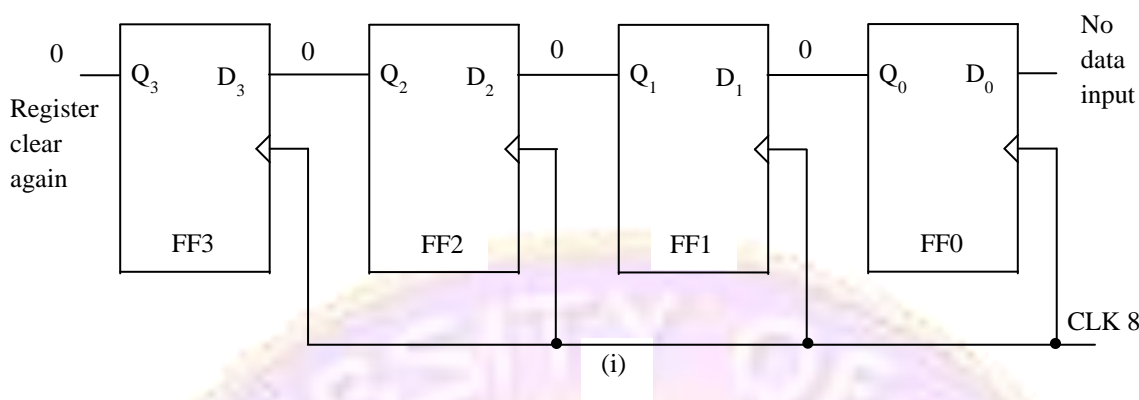

Figure 3. Data flow into and out of 4-bit SISO shift register.
Assume that the register is initially clear (means $Q_3=Q_2=Q_1=Q_0=0$, Figure 3(a)).
1. Let us place bit by bit from left to right starting with left most bit. So first of all, 1 is placed on the data input line making $D_0=1$ for FF0 (Figure 3(b)). The first positive going edge of clock sets first flip-flop (means FF0 stores the data input i.e., $Q_0=1$).
2. Next, the second bit which is a 0, is placed on the data input line making $D_0=0$ for FF0 and $D_1=1$ for FF1 as D_1 input of FF1 is connected to Q_0 output (Figure 3(c)). The second positive going edge of clock sets second flip-flop (means FF1 stores the output of FF0 i.e., $Q_1=1$) and resets first flip-flop (means FF0 stores the data input i.e., $Q_0=0$). So the data stored in FF0 is shifted to FF1 and FF0 stores the input data.
3. Again, the third bit which is a 1, is placed on the data input line making $D_0=1$ for FF0, $D_1=0$ for FF1 as D_1 input of FF1 is connected to Q_0 output and $D_2=1$ for FF2 as D_2 input of FF2 is connected to Q_1 output (Figure 3(d)). The third positive going edge of clock sets third flip-flop (means FF2 stores the output of FF1 i.e., $Q_2=1$), resets second flip-flop (means FF1 stores the output of FF0 i.e., $Q_1=0$) and sets first flip-flop (means FF0 stores the data input i.e., $Q_0=1$). So the data stored in FF1 is shifted to FF2, data stored in FF0 is shifted to FF1 and FF0 stores the input data.
4. The last bit which is a 0, is placed on the data input line making $D_0=0$ for FF0, $D_1=1$ for FF1 as D_1 input of FF1 is connected to Q_0 output, $D_2=0$ for FF2 as D_2 input of FF2 is connected to Q_1 output and $D_3=1$ for FF3 as D_3 input of FF3 is connected to Q_2 output (Figure 3(e)). The fourth positive going edge of clock sets fourth flip-flop (means FF3 stores the output of FF2 i.e., $Q_3=1$), resets third flip-flop (means FF2 stores the output of FF1 i.e., $Q_2=0$), sets second flip-flop (means FF1 stores the output of FF0 i.e., $Q_1=1$) and resets first flip-flop (means FF0 stores the data input i.e., $Q_0=0$). So the data stored in FF2 is shifted to FF3, data stored in FF1 is shifted to FF2, data stored in FF0 is shifted to FF1 and FF0 stores the input data. That's how four bits are serially entered into the shift register and stored.
To get remaining data output, bits are further shifted serially out and become available at Q_3 . After fourth positive going edge of clock, we have left most bit at Q_3 (means $Q_3=1$, Figure 3(e)). Similarly after fifth, sixth and seventh positive going edge of clock, we have $Q_3=0$ (Figure 3(f)), $Q_3=1$ (Figure 3(g)) and $Q_3=0$ (Figure 3(h)) respectively. After eighth positive going edge of clock, the register is clear again (Figure 3(i)).